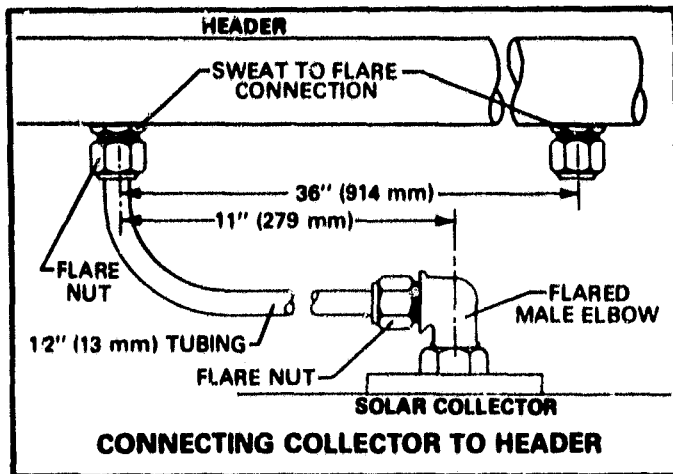
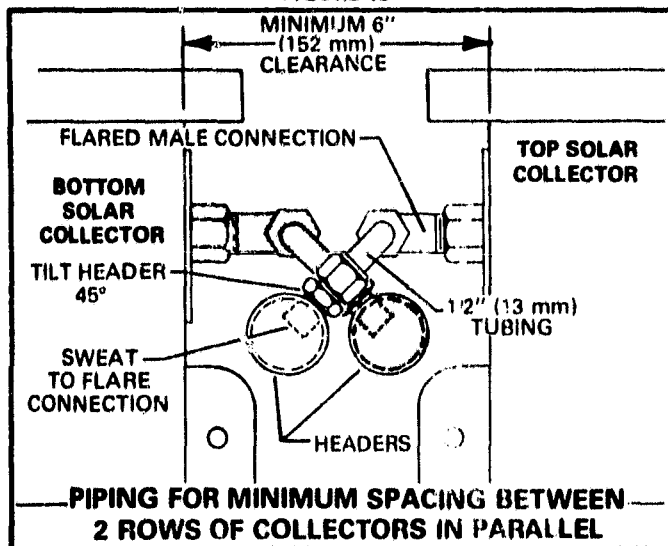

FIGURE 16
FIGURE 17
- b. A 1/2 inch sweat to 1/2 flare fitting must be soldered into each header at 36 inch intervals. Install a flare male elbow at the collector and connect piping as shown in Figure 16. In a two row parallel application, the return and supply headers can be piped according to Figure 17 to minimize collector spacing.